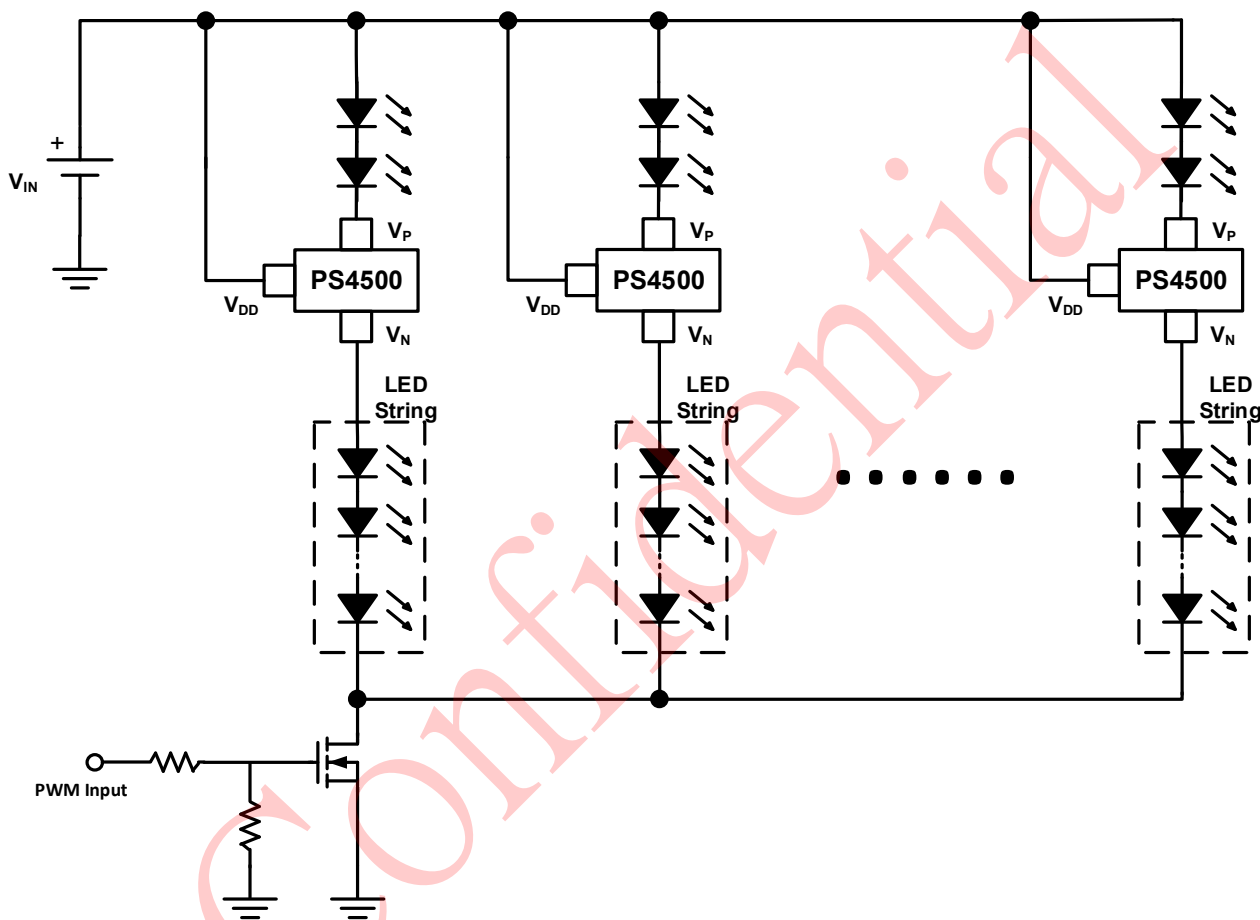
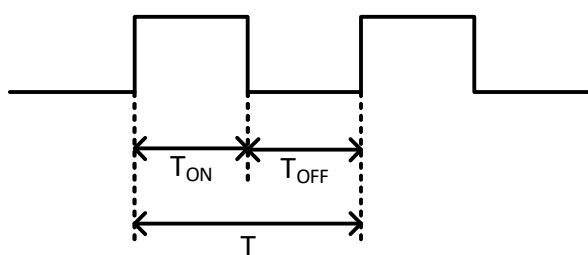
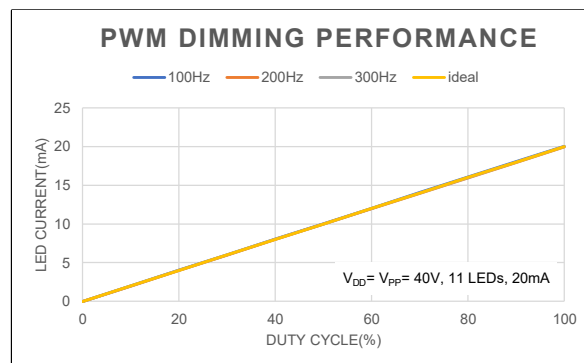

Figure 11. LED strings PWM dimming by external MOSFET
Figure 12. PWM dimming signal
Figure 13. Current accuracy vs PWM dimming
The LED dimming can be easily achieved by placing an external MOSFET in series with PS4500 and the dimming effect can be achieved by adjusting the PWM duty cycle, as shown in Figure 11. Besides, duty cycle is expressed as below and that is a ration of LED turn-on time (T_{ON}) dividing the total time of an on/off cycle (T) which is shown in Figure 12, and Figure 13 shows the current accuracy with different duty cycle.